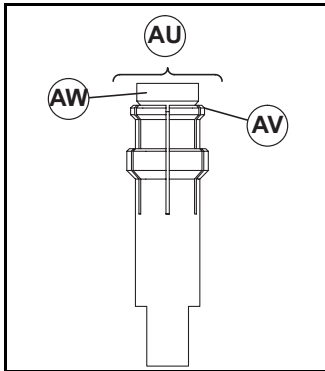
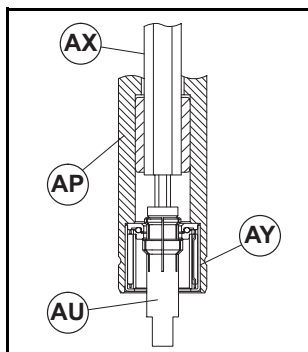

Figure 20
Figure 21
Bearings in pulleys on the 3" (70 mm) and wider conveyors can be removed with Dorner Bearing Removal Tool (Figure 20, item AU), part number §25-05.
To ensure bearing removal tool (Figure 20, item AU) will fit into bearing, make sure that the flair (AV) on bearing removal tool is completely closed.
- Using hex key wrench extension tool (Figure 21, item AX), either part number §25-08 or ♂25-08A, loosen tapered screw (Figure 20, item AW) on bearing removal tool (AU) to compress flair (AV) until flair is completely closed.
- Insert bearing removal tool (Figure 21, item AU) into pulley (AP) through bearing (AY).